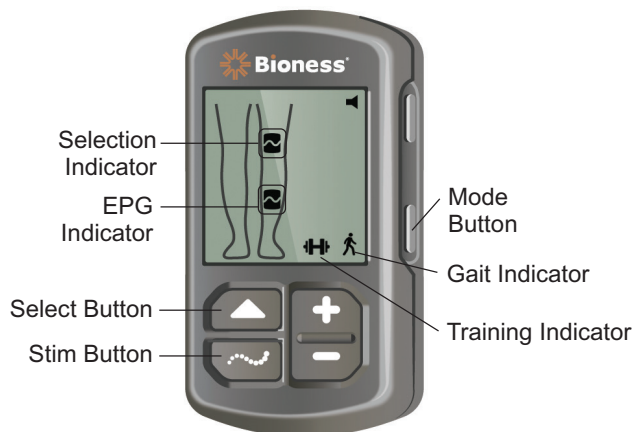

Figure 7-1: Selecting a Operating Mode on the Control Unit
3. The paired EPG(s) will appear in the digital display on the Control Unit with the Selection Indicator icon around the EPG Indicator icon(s). See Figure 7-1. Refer to the "Pairing a New Control Unit to the EPG" section of this guide for pairing instructions.
4. For users with both the Lower Leg Cuff and Thigh Cuff, the Select button on the Control Unit can be used to toggle between the lower leg EPG and thigh EPG or to select both EPGs. See Figure 7-1.
5. To select Gait mode, press the Mode button on the Control Unit until the Gait Indicator icon appears in the lower right corner of the digital display. See Figure 7-1.
6. To select Training mode, press the Mode button on the Control Unit until the Training Indicator icon appears in the lower right corner of the digital display. See Figure 7-1.
1. The stimulation intensity will need to be adjusted separately for each connected EPG. Press the Select button on the Control Unit to select either the lower leg EPG or thigh EPG. See Figure 7-1.
3. Press the Stim button on the Control Unit to stop stimulation. See Figure 7-1.